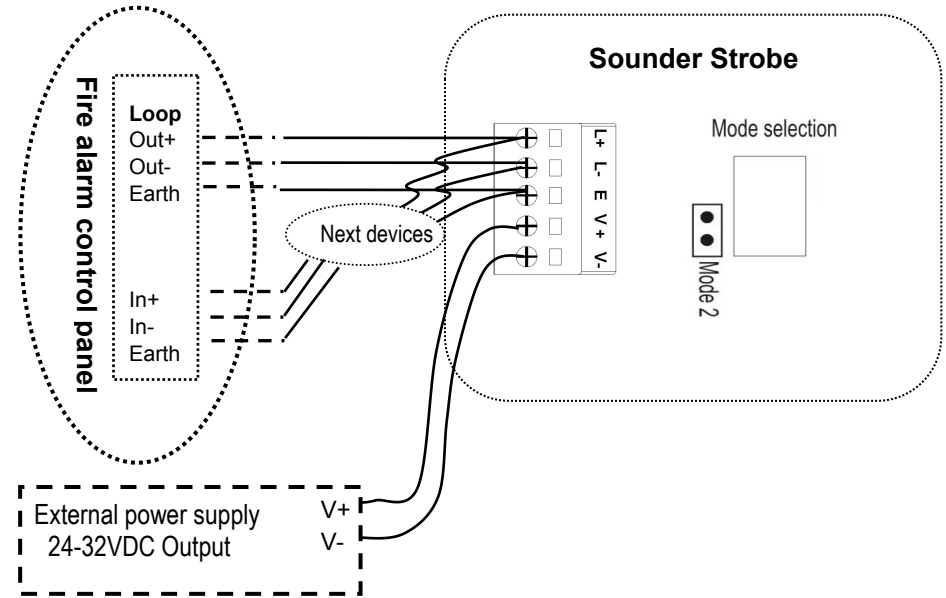

Figure5 Connection of mode 2
1. Select **Mode 2** (set the pin2 and pin3 of the **Mode Selection** to connected) on the sounder strobe as figure 5.